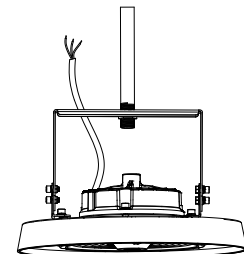

FIGURE 11
4. After installation, connect the wire of the fixture to the main according to local wiring rules, ensure the connection is stable and make good protection on the connection. By adjusting the brackets screws, users can adjust 50° to the left or right vertically. (Figure 11)